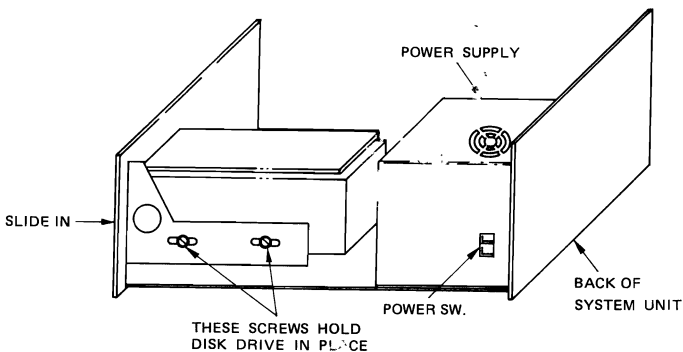

Figure 7. Fastening Internally-Mounted Drive in Place
- G. Fasten the drive in place with the two side screws (See Figure 7.)